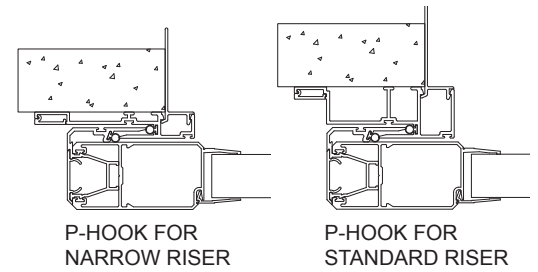

Figure 15
10. The P-hook is not notched and sits on top of the sill riser and just under the header. There are two types of P-hooks, one for the narrow sill riser and one for the box (standard) riser. (See Figure 15)